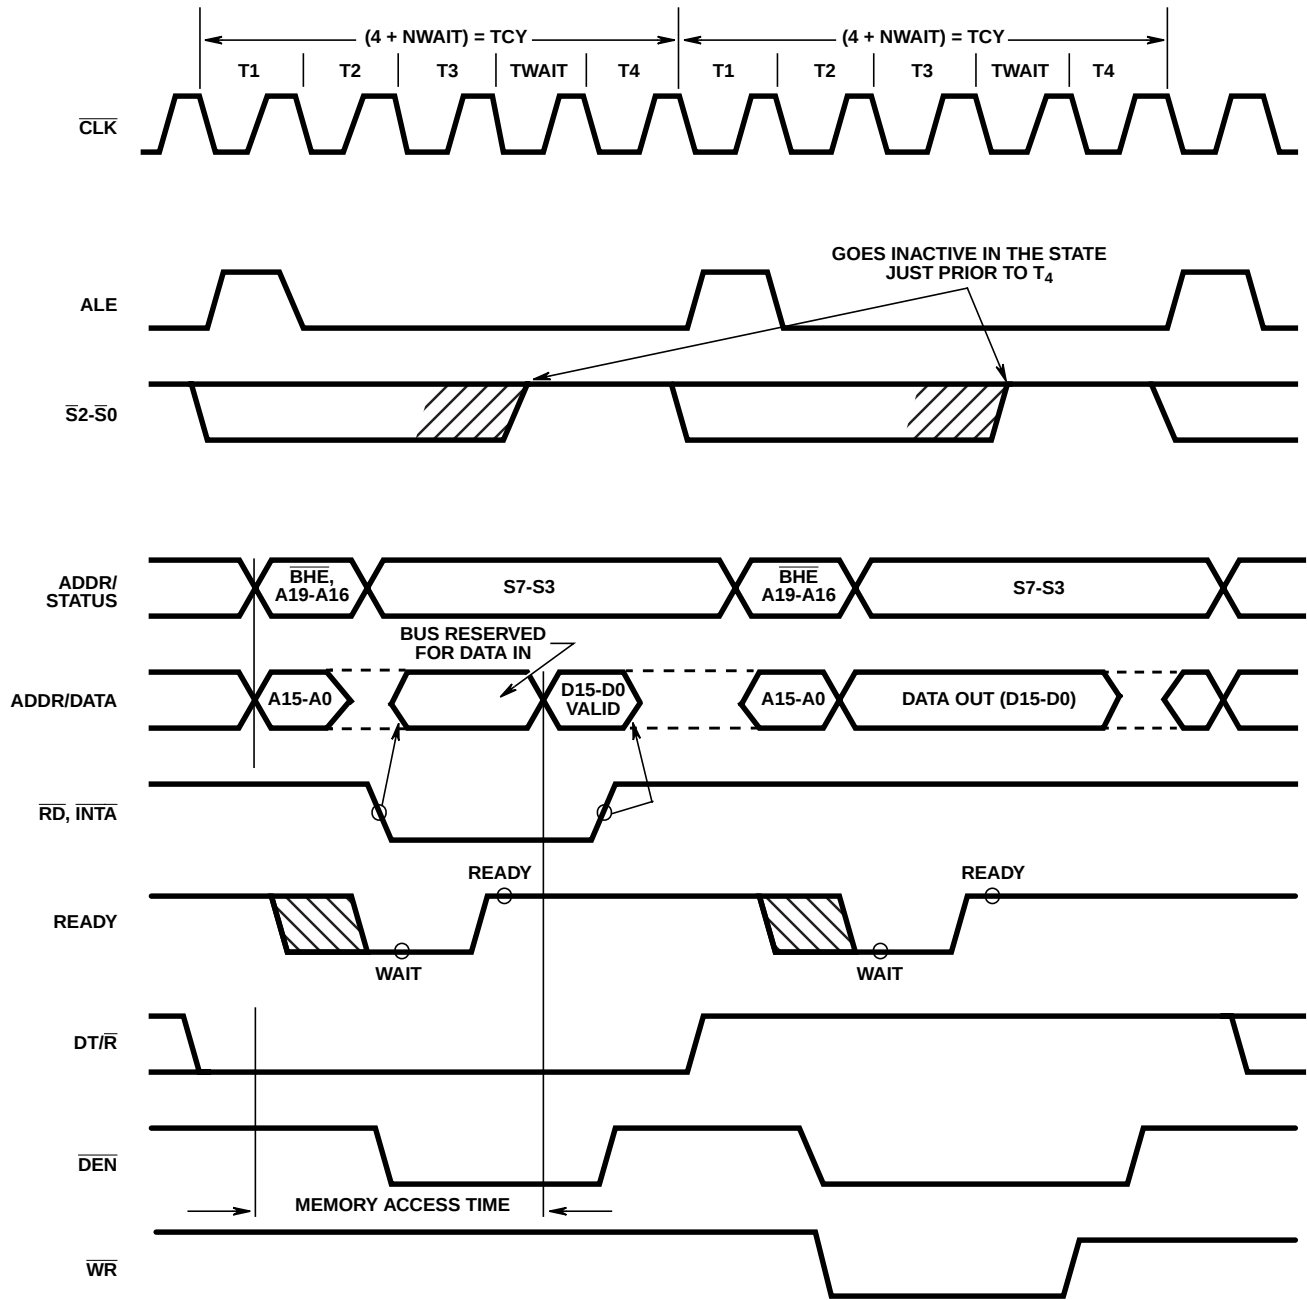

FIGURE 3. BASIC SYSTEM TIMING
Each processor bus cycle consists of at least four CLK cycles. These are referred to as T1, T2, T3 and T4 (see Figure 3). The address is emitted from the processor during T1 and data transfer occurs on the bus during T3 and T4. T2 is used primarily for changing the direction of the bus during read operations. In the event that a "NOT READY" indication is given by the addressed device, "Wait" states (TW) are inserted between T3 and T4. Each inserted wait state is the same duration as a CLK cycle. Periods can occur between 80C86 driven bus cycles. These are referred to as idle" states (T_I) or inactive CLK cycles. The processor uses these cycles for internal housekeeping and processing.
Typical system configurations for the processor operating in minimum mode and in maximum mode are shown in Figures 6A and 6B, respectively. In minimum mode, the MN/MX pin is strapped to VCC and the processor emits bus control signals (e.g. RD, WR, etc.) directly. In maximum mode, the MN/MX pin is strapped to GND and the processor emits coded status information which the 82C88 bus controller uses to generate MULTIBUS compatible bus control signals. Figure 3 shows the signal timing relationships.